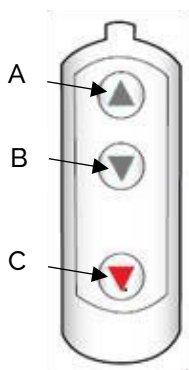

Figure 22
By pressing the UP or the DOWN arrow button on the handset, the carry bar can be raised or lowered to the correct height for attaching the sling or positioning an individual. The UP/DOWN functions of the handset buttons are in relation to the travel of the Hoist. That is, the grey button (A) at the top end of the handset activates the UP motion of the carry bar and the Grey button (B) activates the DOWN motion (Figure 22). The Red Button is the Emergency Lowering function. This should only be used in an emergency when the normal functions cannot lower the patient during a lift. The Hoist cover also provides these abilities, with the same colour coding performing these functions.